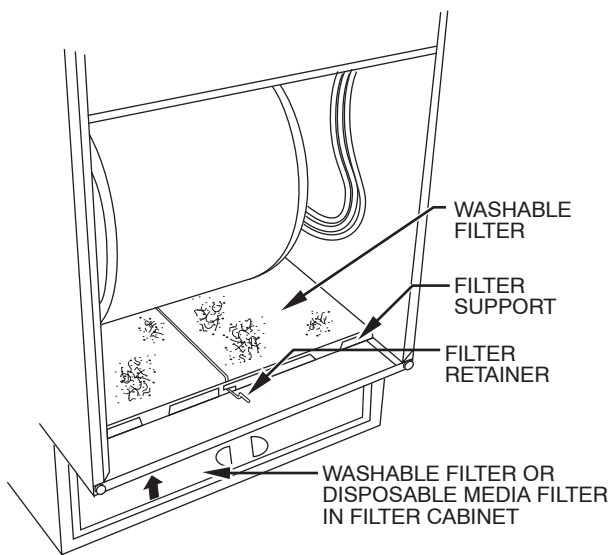

**Fig. 3 - Bottom Filter Arrangement**
3. Release filter retainer wire. (See Fig. 3 or 4.)
**NOTE:** Filters shown in Fig. 3 and 4 can be in furnace blower compartment or in filter cabinet, but not in both.